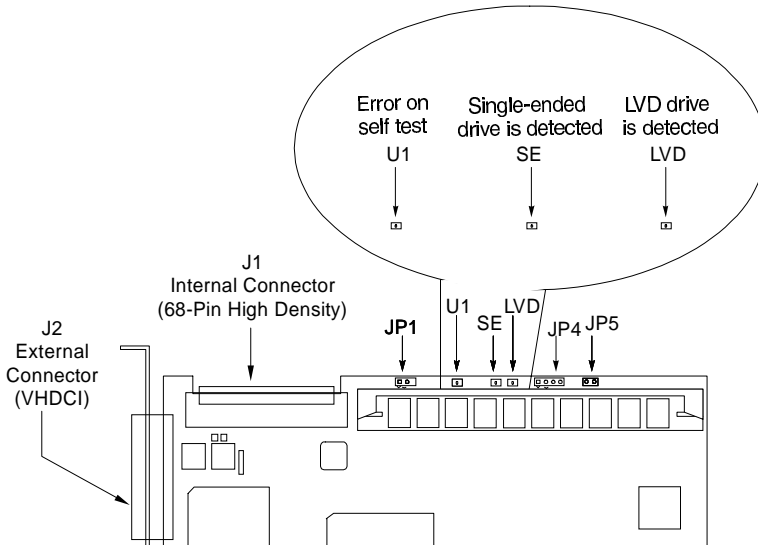

Figure 3-1. LED Descriptions
- Remove the system cover, power ON the system and observe the LEDs (see Figure 3-1).
- Be sure the SE or LVD is lighted appropriately, see the table excerpt following Figure 3-1 on the next page.